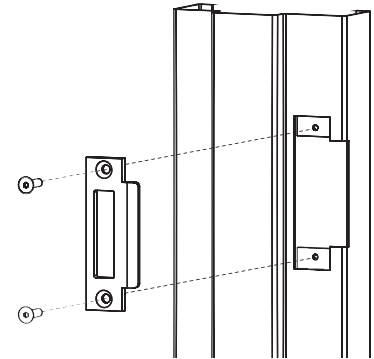

Figure 3
- Install two (2) ¼-20 socket cap flat head screws. (Figure 3)